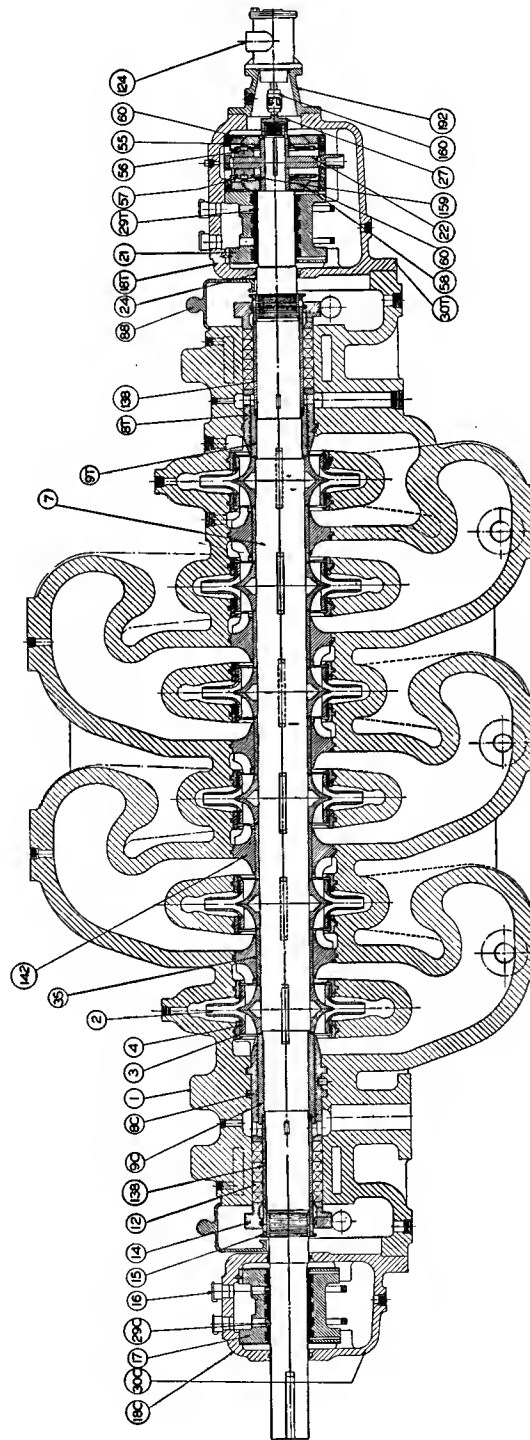

Fig. 25 — Doubleton Multi-Stage Pump.
14. "Doubleton" Multi-Stage Pumps (Fig. 25)